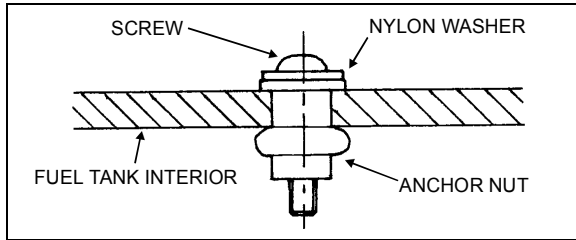

FIGURE 10: FUEL TANK REPAIR 03014
5. Place assembly in drill hole. Tighten screw by 10 complete turns. Refer to Fig. 10.